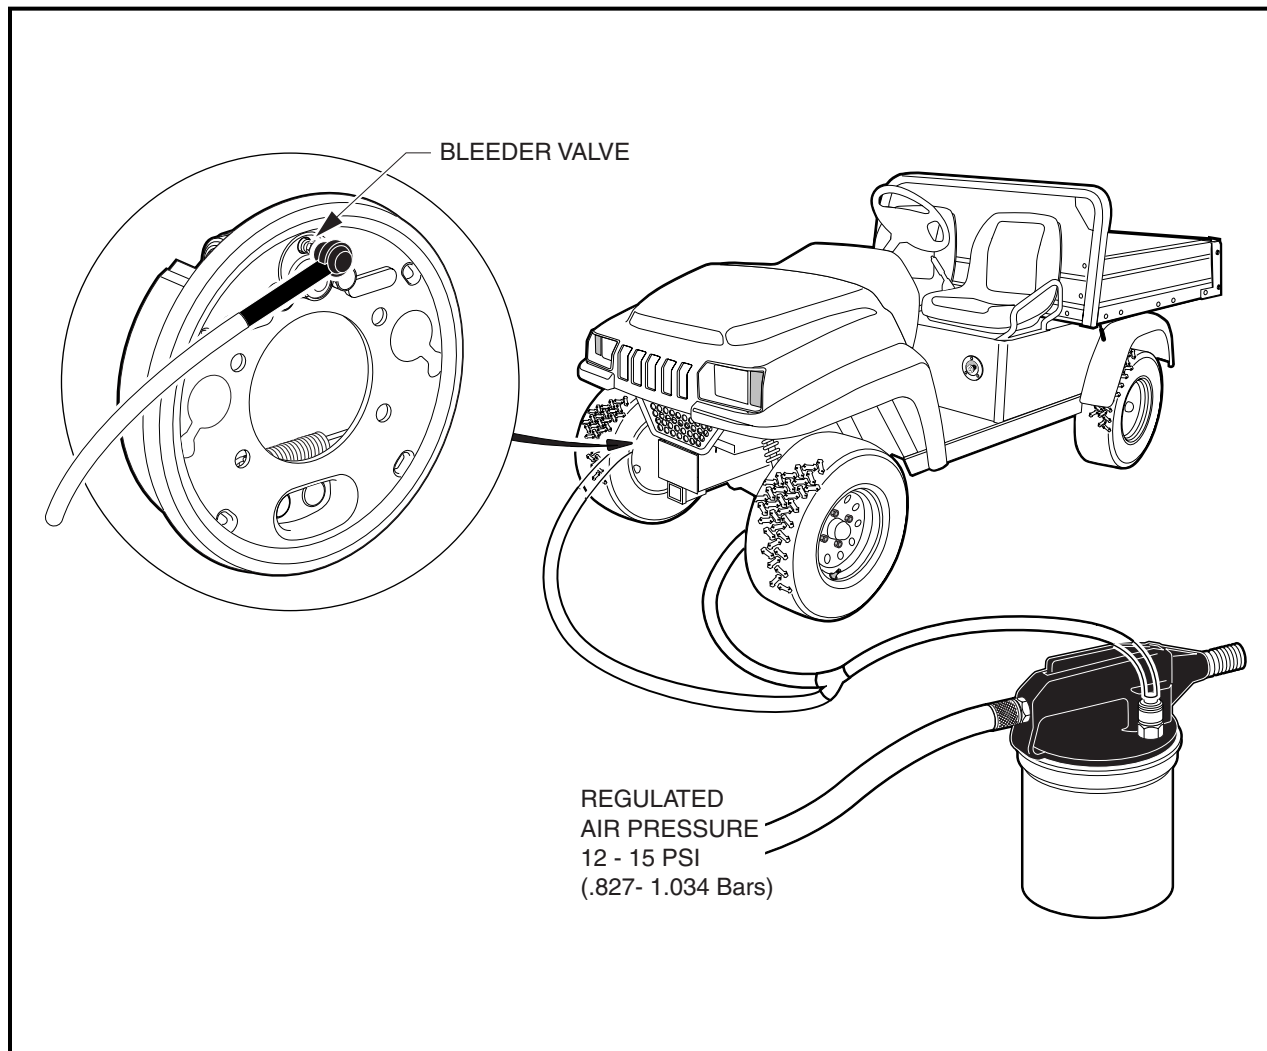

Figure 6-23 Front and Rear Brake Bleeding
- **Front Brakes Only:** Connect the two hose fittings from a vacuum type brake bleeder to the brake bleeder valves on the back of each of the front wheel brake cluster assemblies (**Figure 6-23, Page 6-32**). Proceed to step 8.